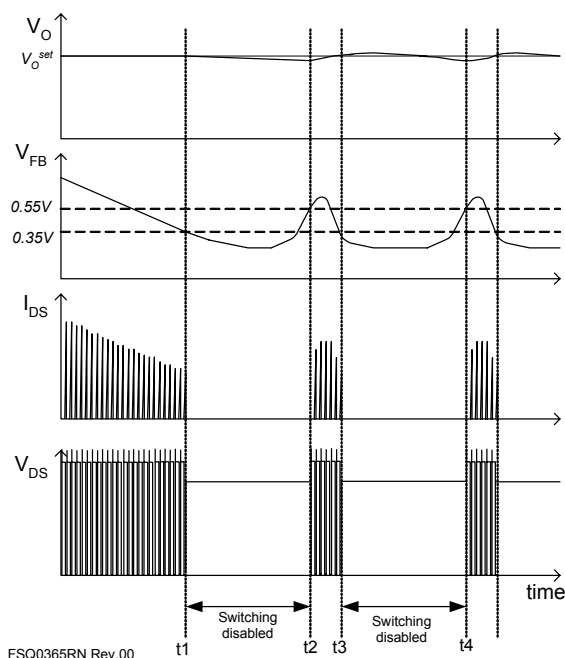

Figure 26. Waveforms of Burst Operation
**6. Burst Operation:** To minimize power dissipation in standby mode, the FPS enters burst-mode operation. As the load decreases, the feedback voltage decreases. As shown in Figure 26, the device automatically enters burst-mode when the feedback voltage drops below  $V_{BURL}$  (350mV). At this point, switching stops and the output voltages start to drop at a rate dependent on standby current load. This causes the feedback voltage to rise. Once it passes  $V_{BURH}$  (550mV), switching resumes. The feedback voltage then falls and the process repeats. Burst-mode operation alternately enables and disables switching of the power SenseFET, thereby reducing switching loss in standby mode.